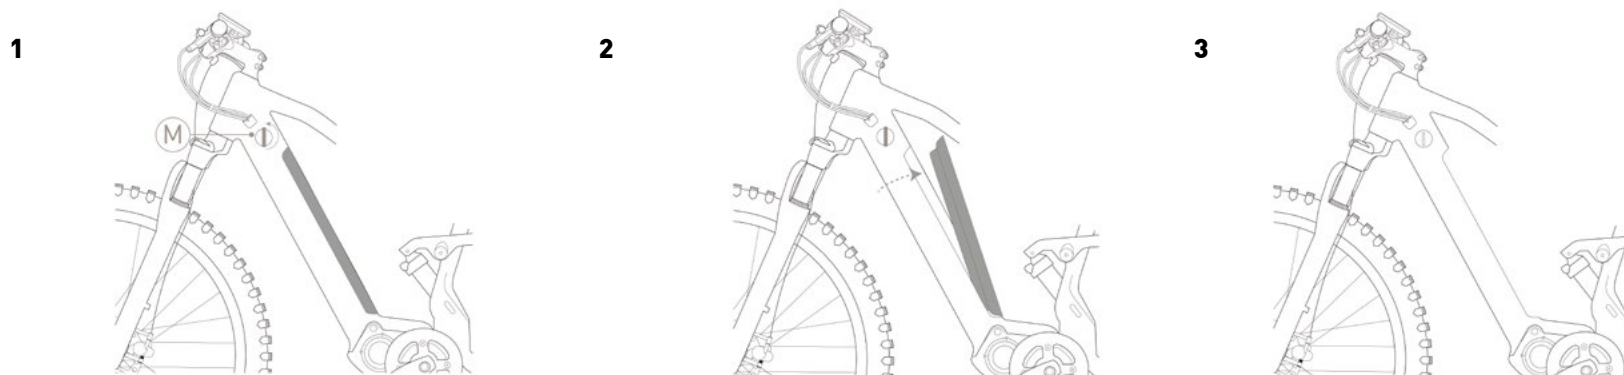

FIG. 7
- 1- Insert the battery lock / release key in the appropriate lock in the upper left part of the frame, near the handlebar and turn the keys counterclockwise (Ref. M - Figure 7);
- 2- Keeping the key turned, release the battery and lift it (Ref.2 - Figure 7).